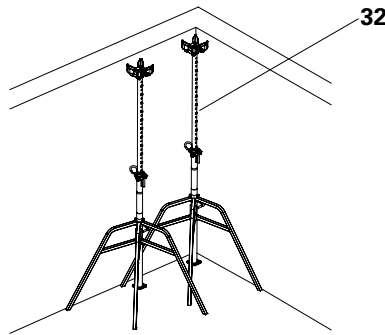

Fig. D2.01
1. Erect two props with DFH propheads (32) and secure with tripods. (Fig. D2.01)